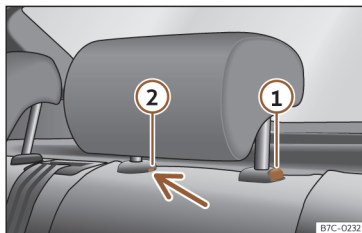

Fig. 111 Rear headrest: removal.
- Press button»» Fig. 111 ①, while simultaneously pressing on the security hole ② with a flat screwdriver a maximum of 5 mm wide, and remove the headrest.